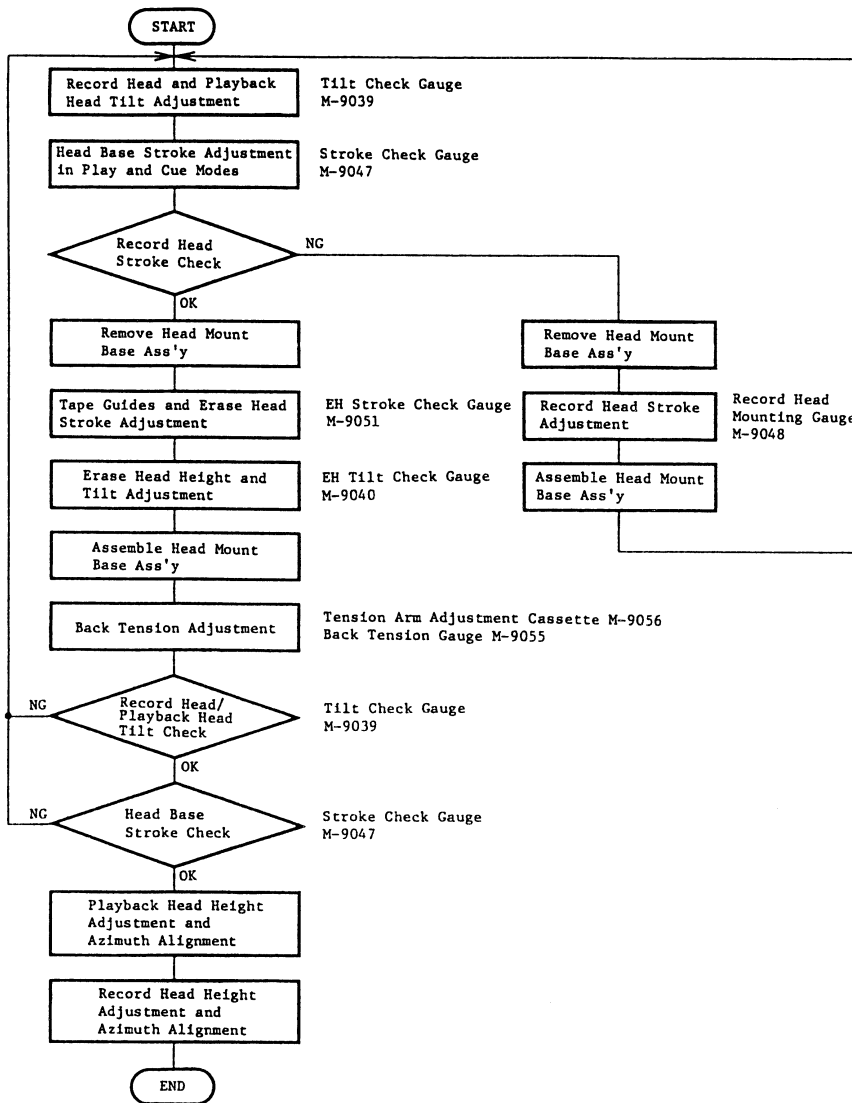
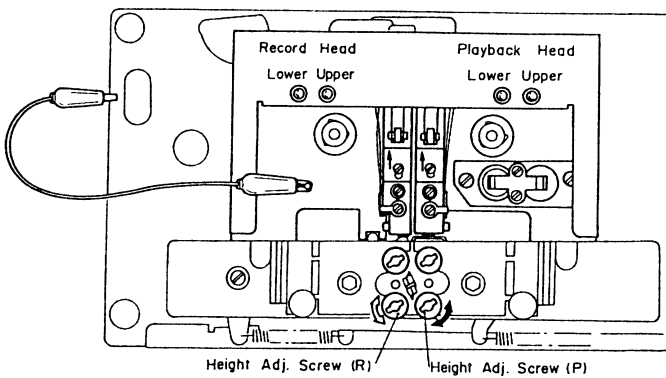

Fig. 4.9
Fig. 4.10
Note: On items 4.4 – 4.10, refer to Fig. 4.9 flow chart. Refer to Figs. 4.10 and 4.11.
- (1) Load a Tilt Check Gauge M-9039 (DA09039A) in the N-1000ZXL.
- (2) Clip the grounding terminal of the Tilt Check Gauge with one end of the cord with clip, and the other end to the chassis of the N-1000ZXL.
- (3) Remove both of the Height Gears.
- (4) Set the N-1000ZXL in Play mode. Check to insure whether the Beacons Playback Head "Upper" or "Lower" and Record Head "Upper" or "Lower" are illuminating. In order not to give damages onto the head surfaces, push both of slide knobs of the Gauge to the direction of arrow marks, then return them to the original place to be in contact with record head and playback head surfaces after Play mode is securely locked.
- (5) Check to insure freedom from contact between the Gauge and pad lifter.
- (6) Beacon Playback Head "Lower" will light on when height adjustment screw (P) turned clockwise but Playback Head "Upper" when counterclockwise. Adjust so that both "Upper" and "Lower" will light on even when you move the slide knob to the direction of an arrow mark and then return them to the original place.
- (7) Same procedures will apply to the Beacons Record Head "Upper" and "Lower", except for the height adjustment screw (R).
- (8) Set the N-1000ZXL in Stop mode and fit both of the serrated height gears. Then set the N-1000ZXL again in Play mode and insure all of the 4 Beacons are illuminating. If not, (3) through (7) will have to be repeated till satisfactory results are obtained.